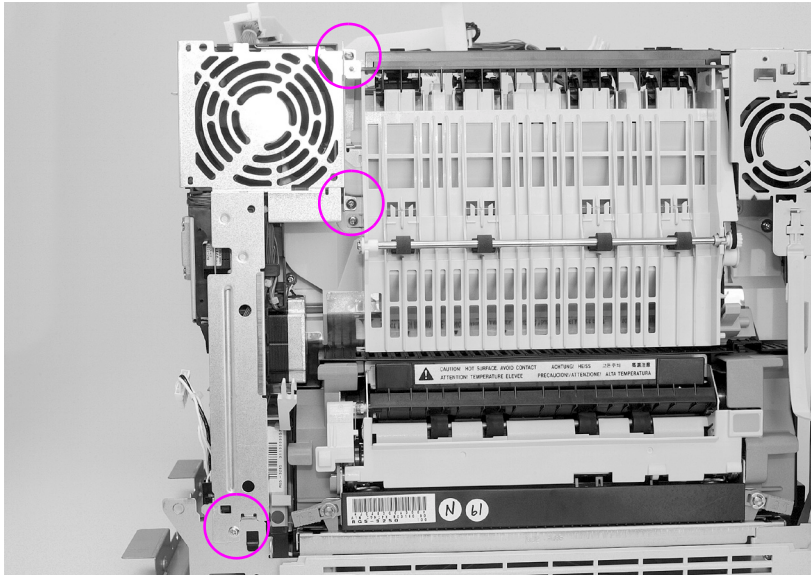

Figure 6-57 Large right side fan removal and replacement (1 of 2)
- 2 Remove the four screws as shown in Figures 6-57 and 6-58, and remove the fan shield.